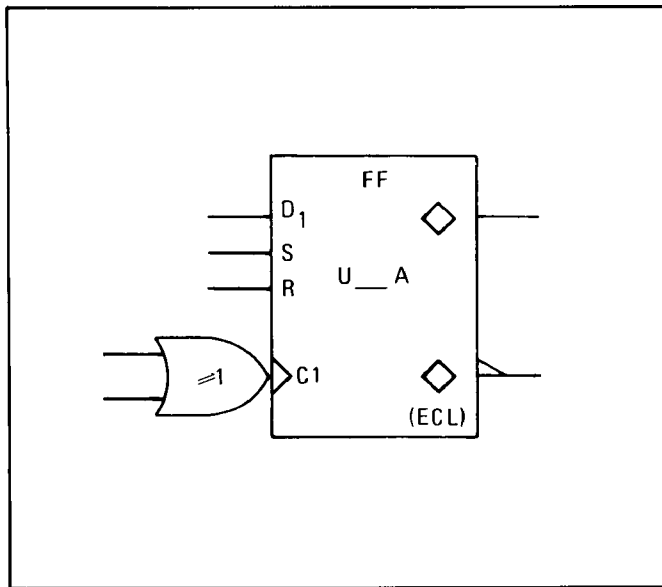

Figure 8-1. D-Type Flip-Flop Symbol
a. D-Type Flip-Flop. A D-type flip-flop symbol is shown in Figure 8-1. D-type flip-flops are normally used to store one bit of binary data. The data (a high or low voltage level) at the D₁ input is stored and transferred to the outputs when the C1 input is active (i.e., during a low to high